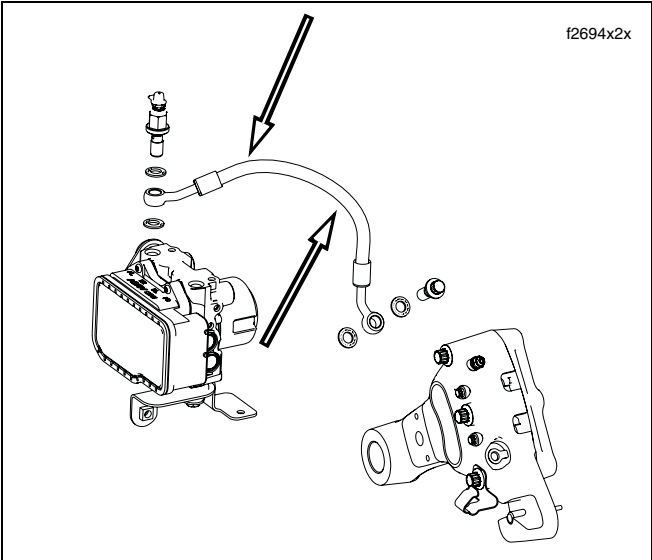

Figure 2. Brake Line 40610-05 to Saddlebag Cut Out and Adjacent Hoses
- 4. See Figure 2 and Table 2. Inspect the brake line (Part No. 40610-05) leading from the ABS module to the rear caliper. Pay careful attention to the following areas: